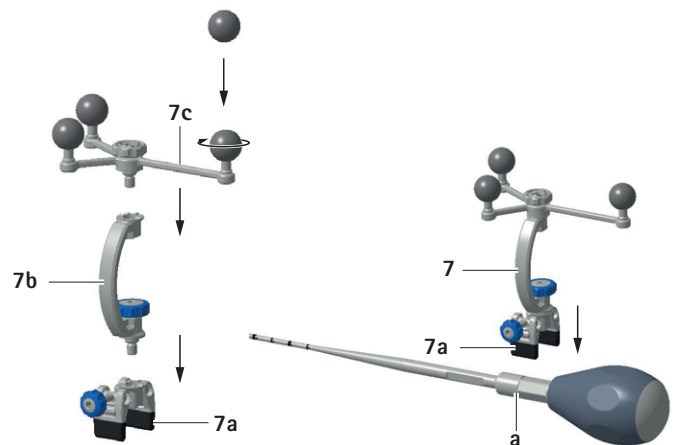

Fig. 7
- ▶ Assemble the universal navigation clamp 7 (SZ096R) (consisting of Brainlab components 7a (55113), 7b (55016) and 7c (41799)) according to the Brainlab instrument user guide and as can be seen on the left side of the image, see Fig. 7.
- ▶ Fix the universal navigation clamp **7** at the hexagonal shaped area of the bone probe **a**, as can be seen on the right side of the image, see Fig. 7. Make sure that the clamp is fully tightened.